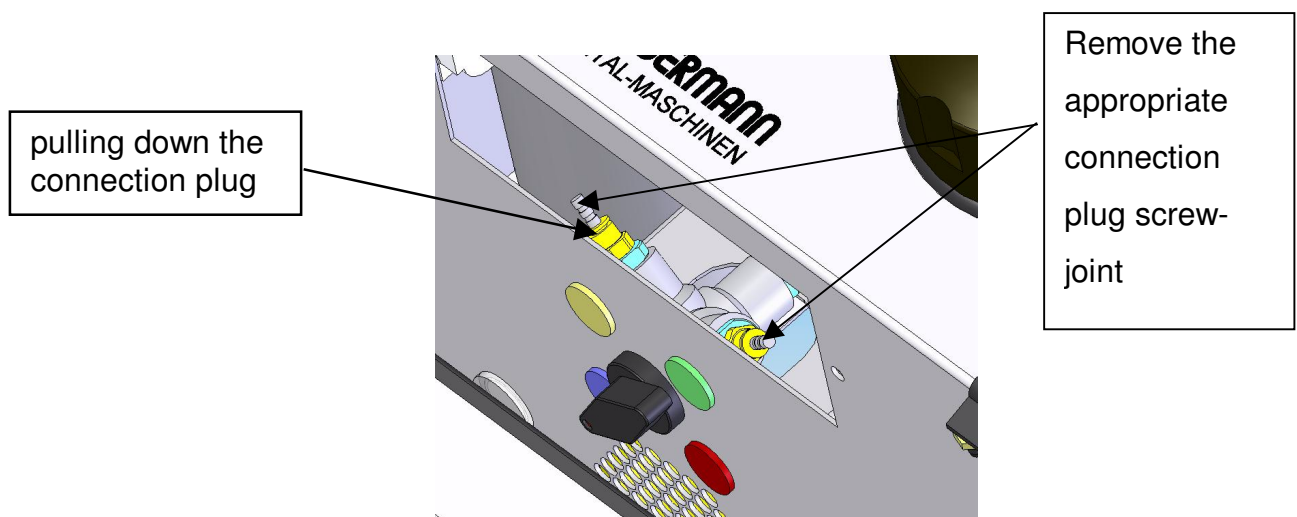

Figure 6
- In each case remove the appropriate connection plug by pressing down the ring of the plug screw-joint, at the same time pulling on the connection plug. **Figure 6**